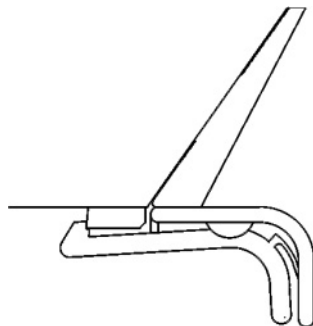
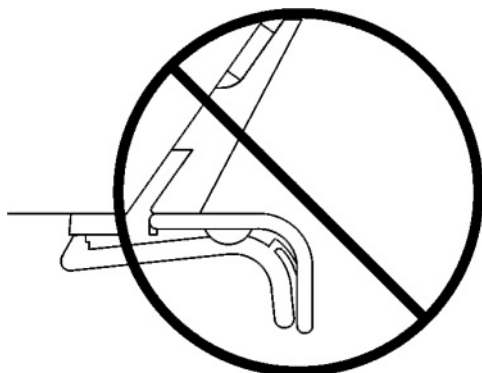

Figure 3-9 Head holder latched
Figure 3-10 Head holder is NOT latched
- 3.) Latch the head holder onto the first step of the plastic latch mechanism (see Figure 3-9 and Figure 3-10). It is not necessary to latch the head holder onto the second step.